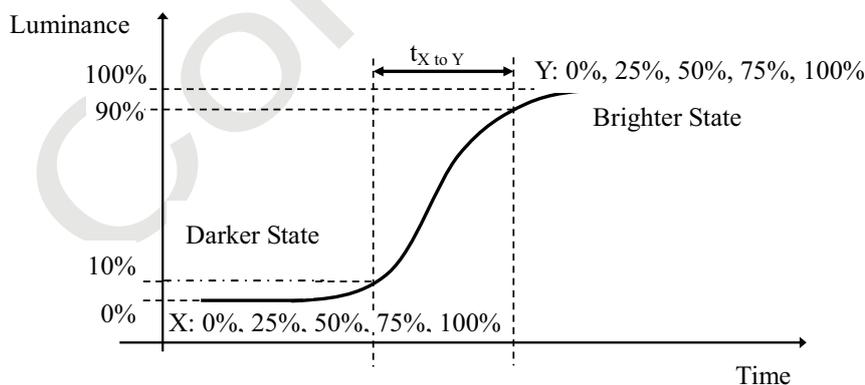

Fig. 6.4 The definition of $t_{X \text{ to } Y}$
(3) Response time T_L is defined as the average transition time in the response time matrix. The table below is the response time matrix in which each element $t_{X \text{ to } Y}$ is the transition time from luminance ratio X to Y. X and Y are two different luminance ratios among 0%, 25%, 50%, 75%, and 100% luminance. The transition time $t_{X \text{ to } Y}$ is defined as the time taken from 10% to 90% of the luminance difference between X and Y ($X < Y$) as illustrated in Fig.6.4. When $X > Y$, the definition of $t_{X \text{ to } Y}$ is the time taken from 90% to 10% of the luminance difference between X and Y. The response time is optimized on refresh rate $F_r = 60\text{Hz}$.